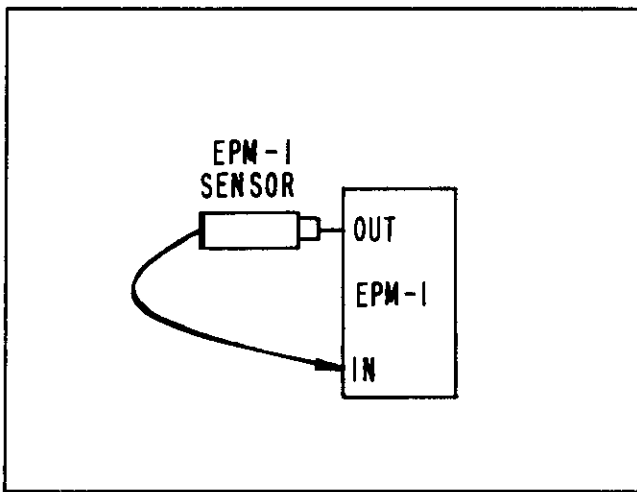
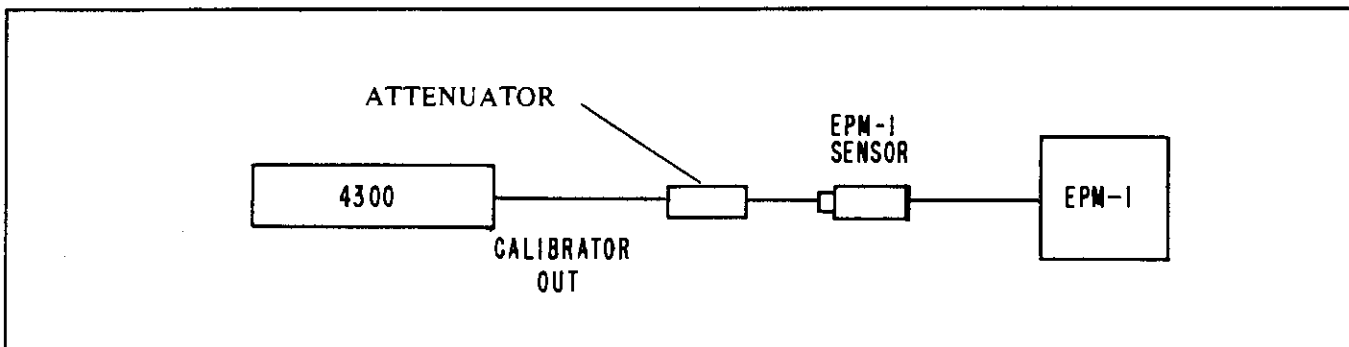

Figure 6-204. Zeroing the EPM-1
Figure 6-206. Attenuated Measurements
4. Connect the equipment as shown in Figure 6-204. On the EPM-1, set the range switch to 0 dBm, and the resistance switch to 50 ohms. Adjust the calibration control on the EPM-1 for a null (0 dBm) indication.
6. **+10 dBm ADJUSTMENT.** With the EPM-1 disconnected from the calibrator, press SPECIAL, 6, ENTER. Press SHIFT until the instrument is on the +10 dBm range. Connect the equipment as shown in Figure 6-204 and zero the EPM-1. Then connect the equipment as shown in Figure 6-206 using the 10 dB attenuator. Adjust the level using the
7. **+20 dBm ADJUSTMENT.** With the EPM-1 disconnected from the calibrator, press SPECIAL, 6, ENTER. Press SHIFT until the instrument is on the +20 dBm range. Then connect the equipment as shown in Figure 6-206 using the 20 dB attenuator. Adjust the level using the 6 keys listed in previous sections until the reading on the EPM-1 is 20.00 — ATTEN. (The range switch on the EPM-1 may have to be used; the range switch setting gets added to the meter reading). Press ENTER once, and ESCAPE
8. **DOWNSCALE ADJUSTMENT.** Connect the equipment as shown in Figure 6-206, using the 1 dB attenuator. Press ESCAPE to leave the calibration routine. Press LEVEL, 1, ENTER. Adjust the pot R11 on the top of the 30 MHz Generator assembly (casting) so that the reading on the EPM-1 is equal to 1.00 - ATTEN where ATTEN is the exact attenuation of the attenuator. If the Generator is assembled into the 4300 for a rear output, this pot is accessible only by removing the Generator. The generator should be mounted in the front output position temporarily with the two screws on the bottom to obtain a good ground. Note: The downscale adjustment may affect the upscale levels (0, -10, -20, etc.). Perform Step 5 above as required.